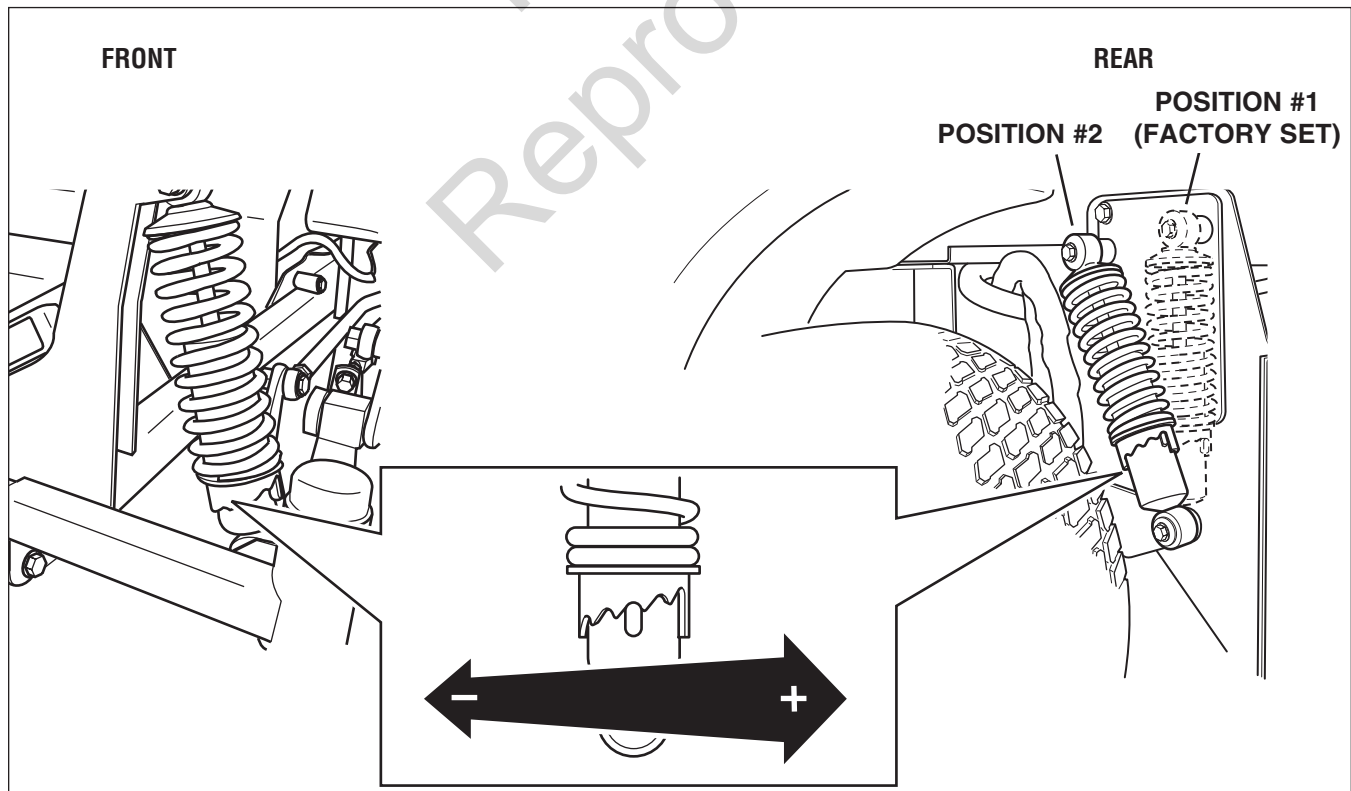

Figure 43. Suspension Adjustment
2. See Figure 43. Using the supplied spanner wrench (p/n 5022853), insert the tip of the wrench into the notch in the pre-load adjuster. While holding the wrench with both hands, turn CLOCKWISE to decrease the pre-load, turn COUNTER-CLOCKWISE to increase the pre-load. Make sure that for each pair of shocks that the left-hand and right-hand are set to the same amount of pre-load.
4. Remove the upper shock mounting hardware and pivot the shock to the position #2 (see Figure 43). Adjust the jack to align the shock mounts to the shocks.